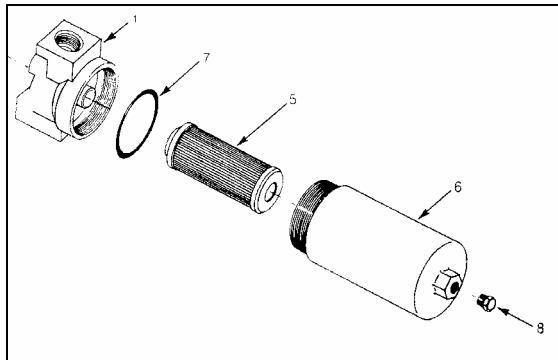

FIGURE 46: WATER FILTER
3. Rotate bowl (6) counterclockwise and remove.
4. Remove element (5) from housing. Discard all disposable elements. These elements are not cleanable (Fig. 46).
This valve is optional and is installed on the vehicle equipped with a preheater. The valve is located in the HVAC compartment (Fig. 18). This valve is similar to the driver's liquid solenoid valve. Refer to Fig. 46 for part names.